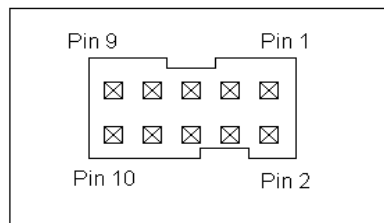

Figure 2. 10-pin IDC connector (Digi-Key part A33159-ND). Mates with Digi-Key part HKC10H-ND or similar.
- TTL Input Connector – 10-pin IDC header. The deblanking signal should be connected to pin 8 of the IDC connector (with pin 7 as the corresponding ground). See Figure 2 below for pinout information.